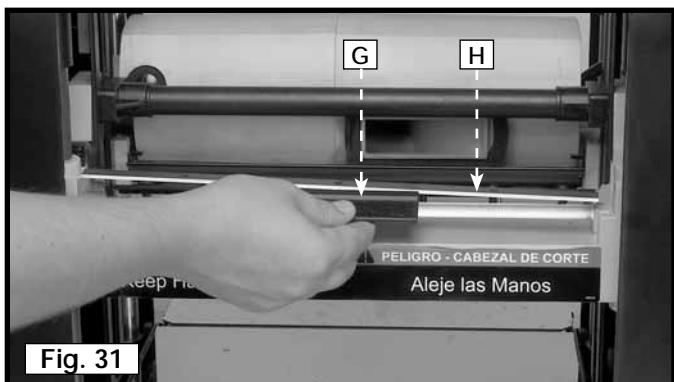

Fig. 31
7. Place the magnetized knife transfer tool (G) Fig. 31 under the center of the knife. Lift the knife transfer tool until the knife (H) separates from the pins. Remove the knife.